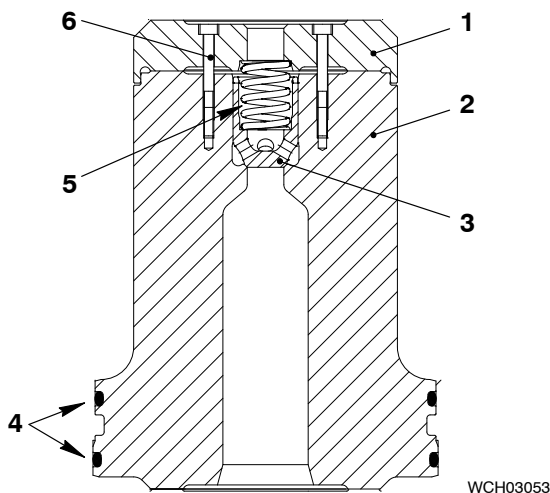

Fig. 11
- 1) Remove the two screws (6, Fig. 11).
- 2) Remove the intermediate piece (1) and the spring (5).
- 3) Remove the valve body (3) from the valve block (2).
- 4) Remove the two O-rings (4).